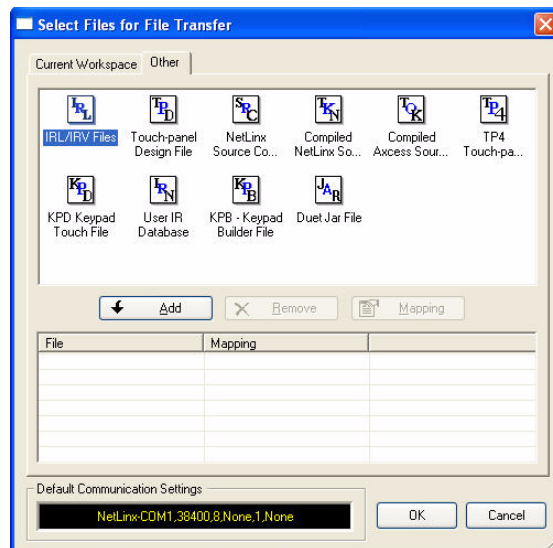

FIG. 64 Select Files for File Transfer dialog (NetLinx Studio)
2. Click the Add command button to open the Select Files for File Transfer dialog, and open the Other tab (FIG. 64). Use the Other tab if the file(s) you want to transfer are not included in the open Workspace. This tab consists of a display of the different types of files that can be transferred to the Master or System devices on the bus.